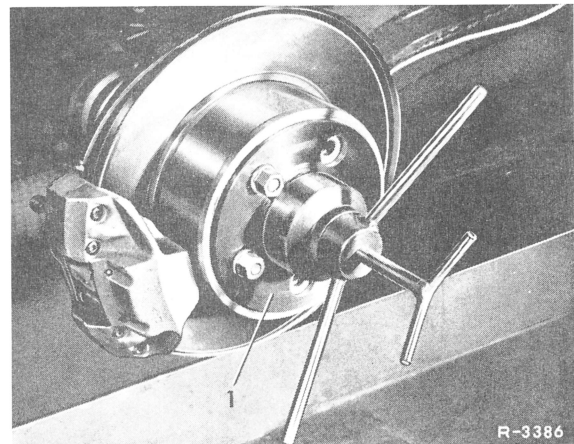

Fig. 2
- 4 Force rear axle shaft out of rear axle shaft flange with fixture (Fig. 2).